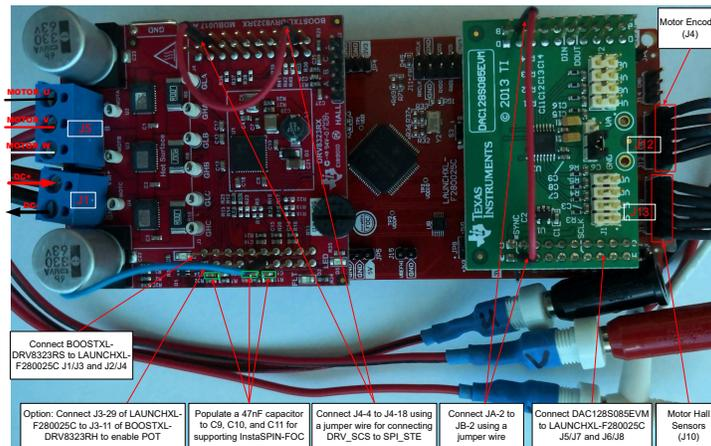

Figure 3-12. LAUNCHXL-F280025C/F280039C/F2800137 Connected to the BOOSTXL-DRV8323RS and DAC128S085EVM
- Make sure that the following items are completed as described below, and then connect the BOOSTXL-DRV8323RS to J1/J3 and J4/J2 of the LAUNCHXL-F280025C, LAUNCHXL-F280039C, or LAUNCHXL-F2800137 as shown in Figure 3-12.
- Connect the motor, encoder, and Hall sensors to the BOOSTXL-DRV8323RS and LAUNCHXL-F280025C, LAUNCHXL-F280039C, or LAUNCHXL-F2800137 boards as described in Table 3-2 and shown in Figure 3-12.
- Connect a supply voltage ranging from 6 to 40 V from a battery or a DC voltage source to the voltage supply pins as shown in Figure 3-12. The ABS max supply voltage rating for the DRV8323RS is 65V, so care must be taken to ensure that the voltage does not exceed this value during operation. This is particularly important while slowing down or braking the motor, which can cause the supply voltage to rise substantially. Power should only be applied when instructed to do so in Section 3.5, keep disconnected otherwise.